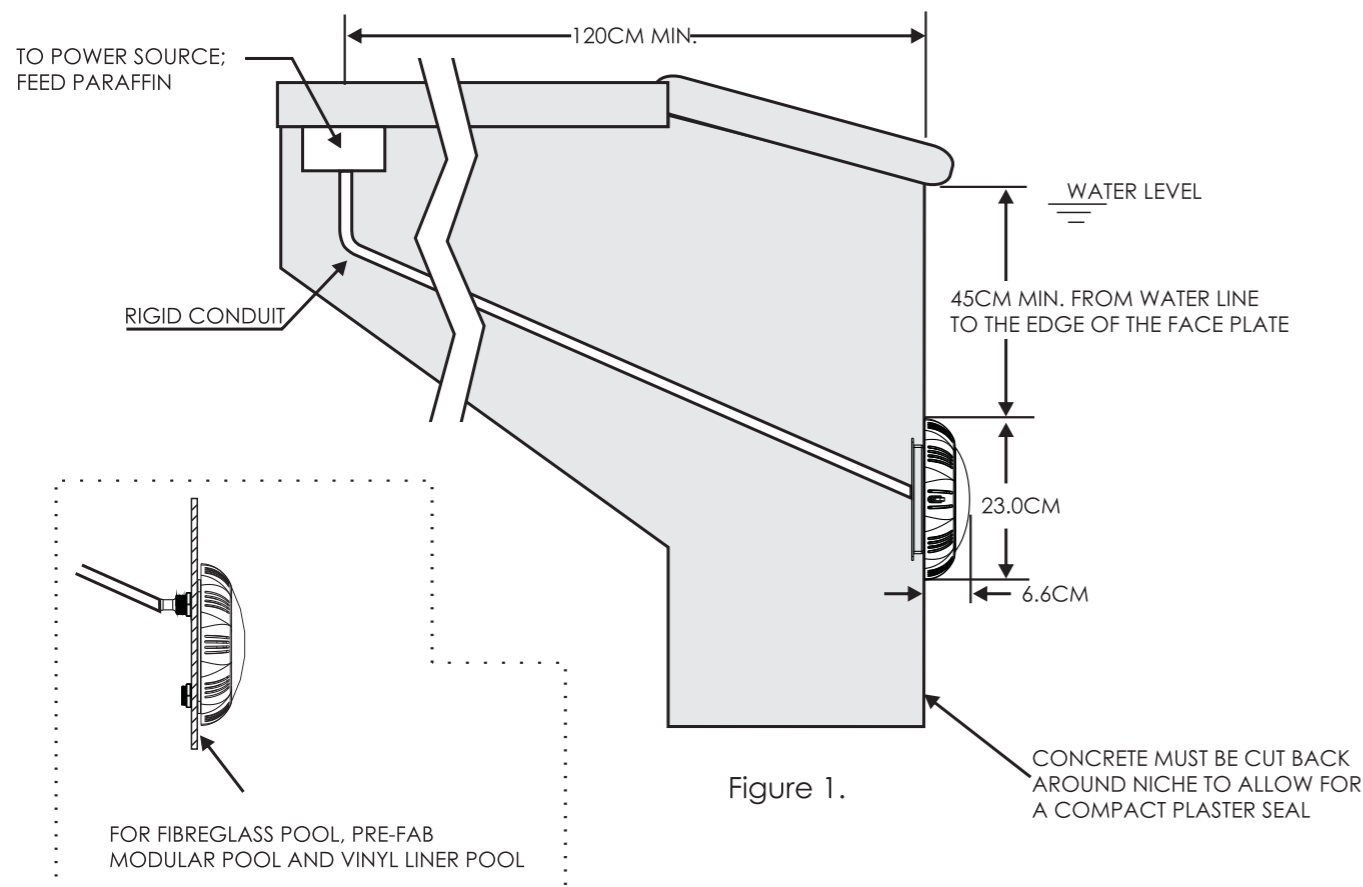

Figure 1.
### A) Preparatory steps which must be completed by the electrician before light is installed, see Figure 1.
- a) The junction box, or the low voltage transformer for 12 volt Underwater Light model is to be located at least 120CM from the edge of the pool, see Figure 1.
- c) The mounting bracket must be properly installed so that the top edge of the Underwater Light lens is at least 45CM below the surface of the water in the pool, see Figure 1.
- 1) Locate position on a vertical wall where light is to be installed. The edge of the face plate must be 45CM below normal water level, see Figure 1.